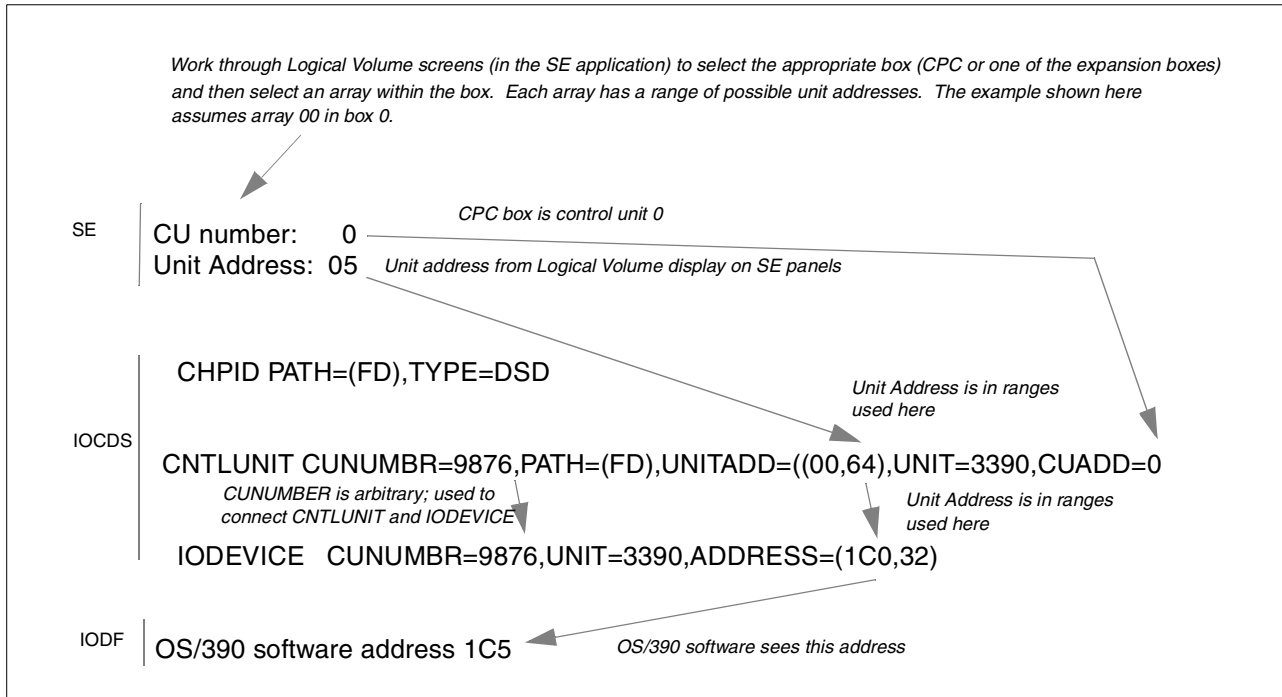

Figure 15. Addressing Chain for Logical Volume on Primary Disks (Using a Range of Unit Addresses)
Figure 15 on page 84 illustrates the relationship of the Unit Address (assigned when a logical volume is created) and the final address seen by OS/390. In this example, part of the Unit Address (05) is carried through to become part of the OS/390 address.¹¹ If we added a UNITADD operand to the IODEVICE statement, we could completely separate the hardware address component from whatever “address” we wanted to assign for OS/390 use.